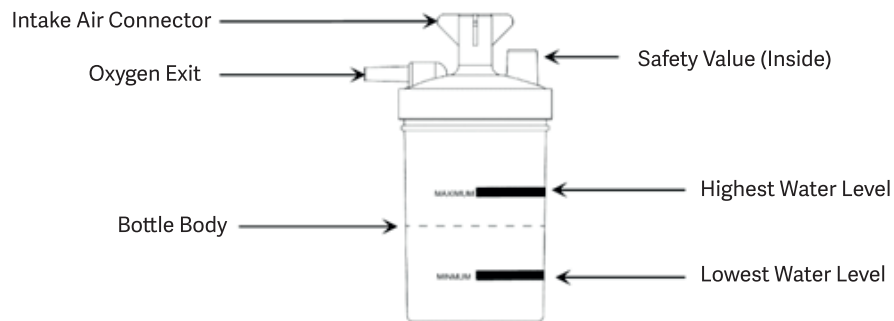

Figure 5
a. Fill the humidifier bottle with the distilled water as per the water level instructions. Fix the cover to the body (Figure 5);